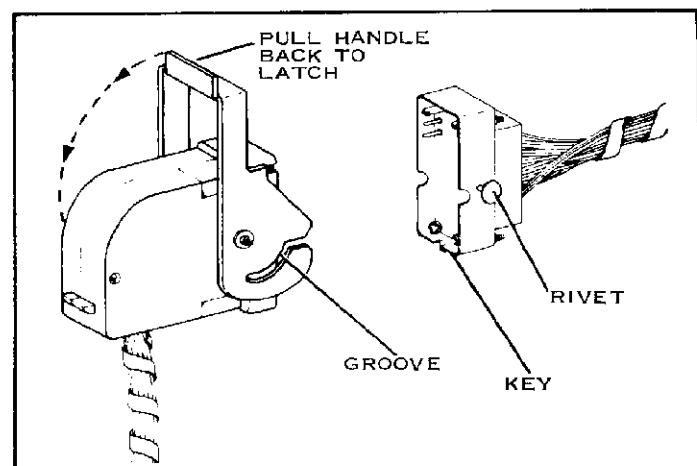

FIGURE 4
2. Align the Grooves in the Handle with the Pin Hood Rivets. Figure 4.